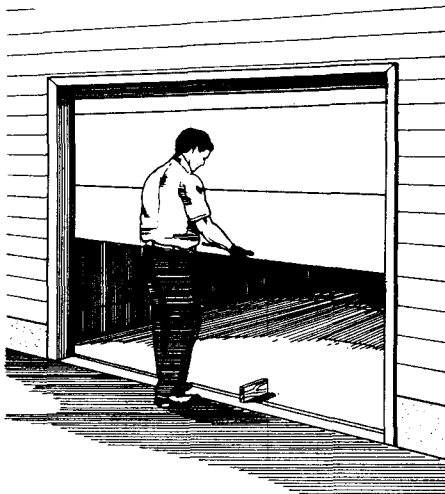

FIG. 18
**SENSITIVITY TEST:** (It is suggested that work-gloves be worn for this test). With the door already open, place the large block on the floor about 2' off center but on the line of contact that the door makes with the floor. Make sure the immediate area in which you are about to stand is clear of objects on which you could stumble. Standing outside the door at its center, with the door traveling downward, grasp the bottom edge of the door with both hands palms up and attempt to restrain the door's downward motion (Fig. 18). The door should react to this restraint with reasonable force, and then reverse. If it does not, release the door edge and calmly step back. The door will contact the block and reverse to the full open position.